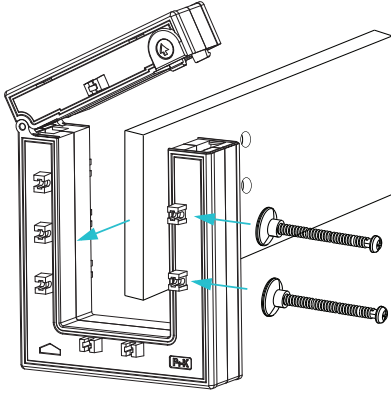

Figure 5 Busbar Clamping Arrangement in the CT
- Place the busbar in the current transformer window and insert the clamping screws from both sides through the CT and seat the clamp blocks or retainers in molded pockets as depicted in Figure 5.